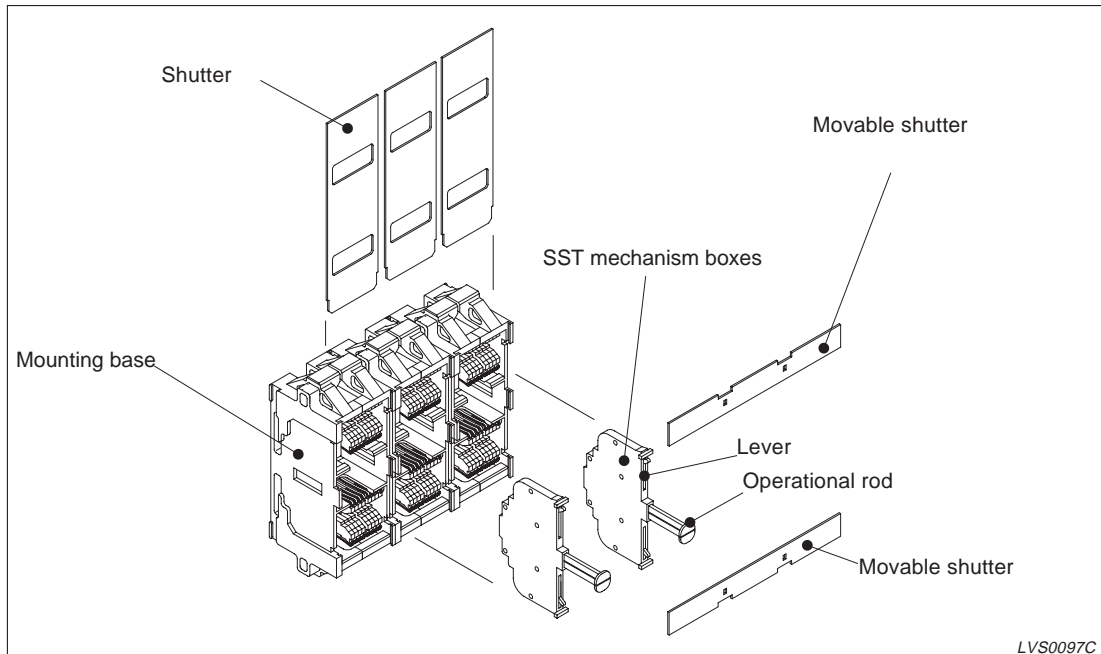

Fig. 4-36: Installation of the safety shutters
- ① Draw out the breaker from the cradle and remove it.
- ② In case of a 3-pole breaker, insert the SST mechanism boxes into the gap of the mounting bases of the cradle according to fig. 4-36.
- ③ In case of a 4-pole breaker, the SST mechanism boxes must be inserted into the gaps of the L phase and C phase, R phase and N phase.
- ④ Put the movable shutters on the lever of the safety shutters (SST) mechanism boxes.